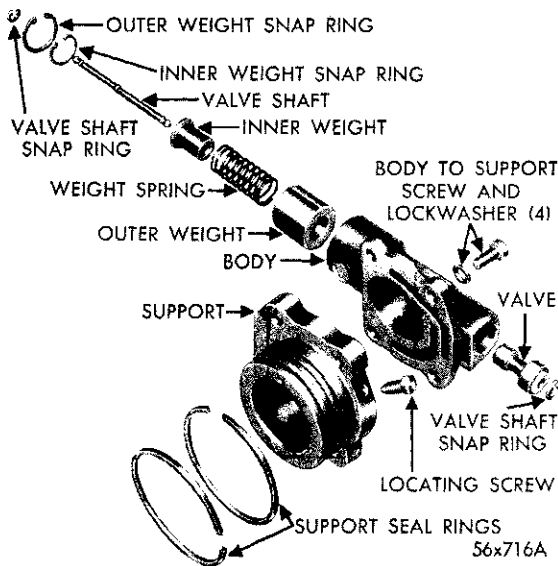

Fig. 98—Governor Assembly (Disassembled View)
71. GOVERNOR DISASSEMBLY AND INSPECTION (Fig. 98)